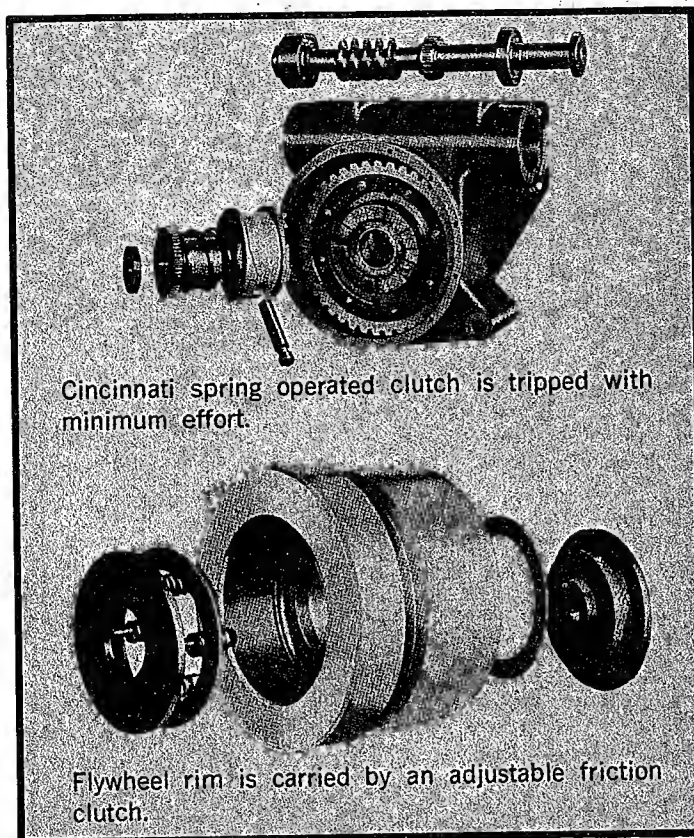

FIGURE 110
3. Mark the flywheel and the friction mounting with chalk to check for slippage. A single line on face of friction mounting and an adjacent mark on inside diameter of flywheel will provide reference points. Refer to Figure 110.
- 10. Remove the safety wires or cotter keys from nut No. 1. Refer to Figure 110.